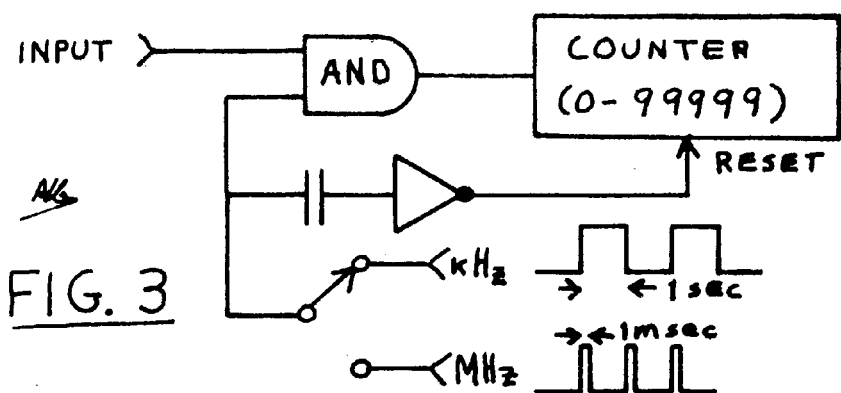

FIG. 3
1) Whilst I did not labour the need for the electronic expanded scale version, because it detracted from the simplicity and low cost of the system, it is miles ahead of a simple meter-thermocouple. See fig. 3 of Part I (p. 132). Of course that circuit won't balance unless the thermocouple is in the circuit.
This is still an awkward unit to operate, requiring manual resetting and pulsing. It is, however, not too difficult to do this automatically. Say that we replace the one-second pulse with a square wave of 1-sec on and 1-sec off, and coincident with the first count we pulse all the decade counters to zero in such a way that the first count is not lost. We would then have a counter which, left to itself, would count for one second, stop counting for the next second, but would display the previous second's count for that second, then cancel that count and start again. E.g., a frequency input of 12.345 kHz would show on the readout as a flickering display for one second, a steady display of 12345 for the next second then a flickering display and so on. This might sound messy, but it is quite easy to read and above all it is automatic. The MHz range is treated in a similar way in this project except that for each one-millisecond count period, a 1-sec hold and display period is used. The result on this range is that as the flicker period is only one millisecond, it is almost imperceptible and the display appears quite steady. See fig. 3.